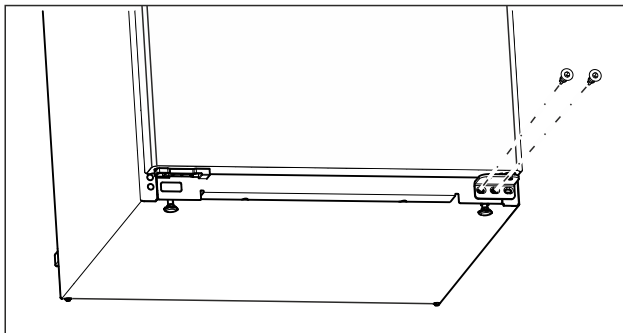

Fig. 6
- ▶ Unscrew the middle screw on the lower swap bearing block with a Torx 20 screwdriver. (see Fig. 6)
- ▶ Unscrew the inner screw on the lower swap bearing block with a Torx 20 screwdriver. (see Fig. 6)